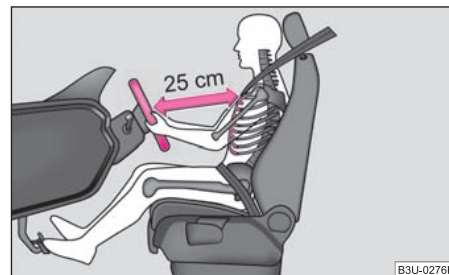

Fig. 4 The correct distance of the driver from the steering wheel
- Adjust the steering wheel so that the distance between the steering wheel and your chest is at least 25 cm ⇒ fig. 4. Not maintaining this